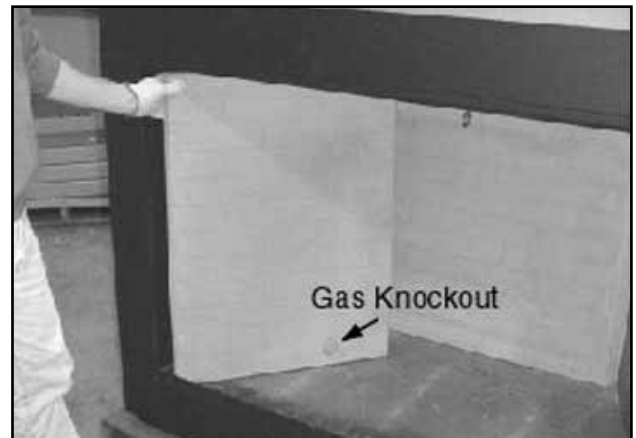

Figure 7.13 Install Side Refractory
**Note:** To ensure proper installation, gas knockouts in the side refractories should be positioned towards back of fireplace. See Figure 7.13.
- Place side refractory into fireplace. Position towards front of fireplace and slide to the rear. See Figures 7.13 and 7.14. Repeat for the second side refractory.